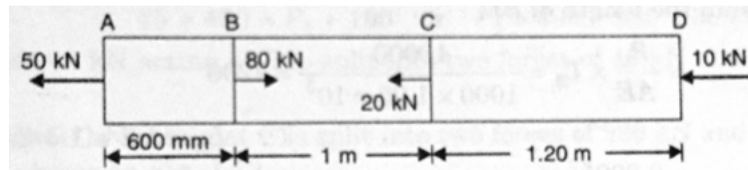

Figure 1
- (b) The bar shown in Figure 1 is subjected to a tensile load of 160 kN. If the stress in the middle portion is limited to  $150 \text{ N/mm}^2$ , determine the diameter of the middle portion. Find also the length of the middle portion if the total elongation of the bar is to be 0.2 mm. Young's modulus is given as equal to  $2.1 \times 10^5 \text{ N/mm}^2$ . [7M]